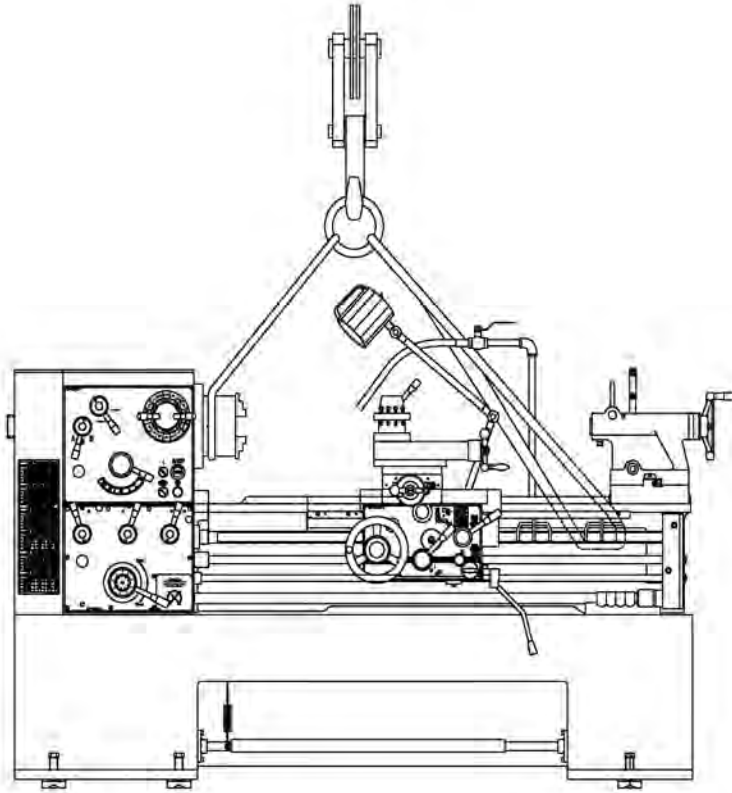

Figure 2
2. Two safety straps with width of 80 mm, thickness of 6 mm and length of 4000mm. The safety loading weight of the straps is required same as the crane's. Wrap the straps under the ribs as shown, and then lift the machine in the slowest speed of the overhead crane. (shown in figure 2)